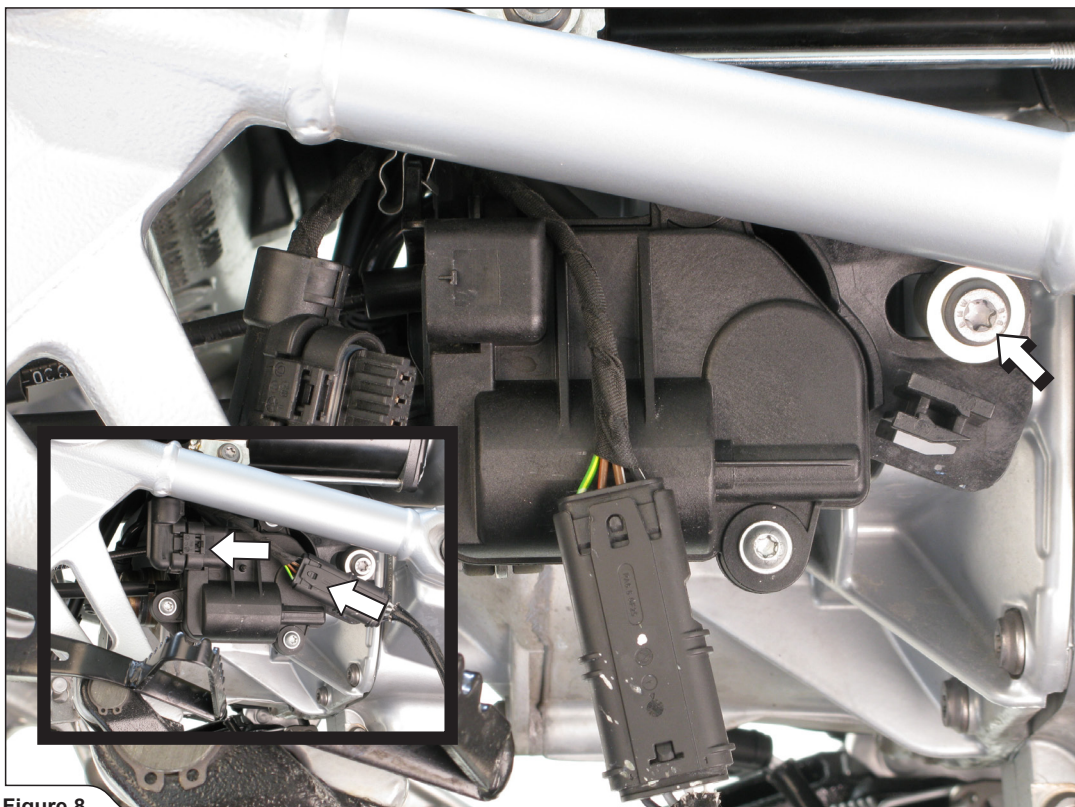

Figure 8
8. Unhook the right cylinder's lambda connector off the servo's housing, disconnect the exhaust valve servo's connector, unscrew the marked bolt and carefully remove the servo together with valve's cables off the motorcycle (Figure 8).